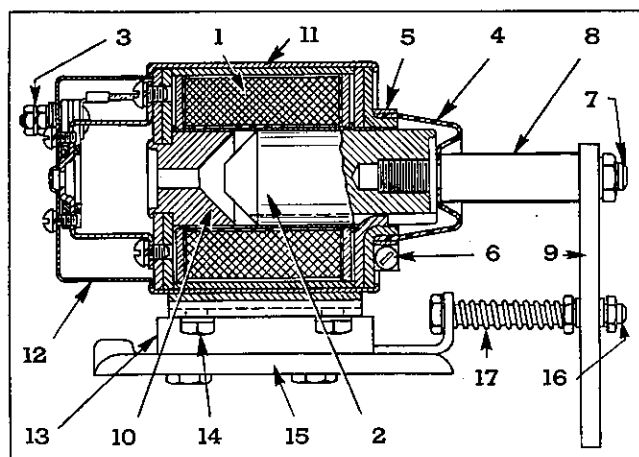

Fig. 25—Starting Solenoid Assembly.
Description—The solenoid assembly shown in Fig. 25 is mounted on top of the hydraulic governor and wired into the electrical starting system as shown in the wiring diagram on Page 23. The action of the solenoid plunger when energized is transmitted through the stud (7) and link (9) to the fuel rod of the governor and serves to move the rod from NO FUEL to FULL FUEL position and thus effect rapid starting. The solenoid remains energized until the engine has started and the governor has picked up control of the throttle mechanism. (See Sec. 16 for details of solenoid operation.)